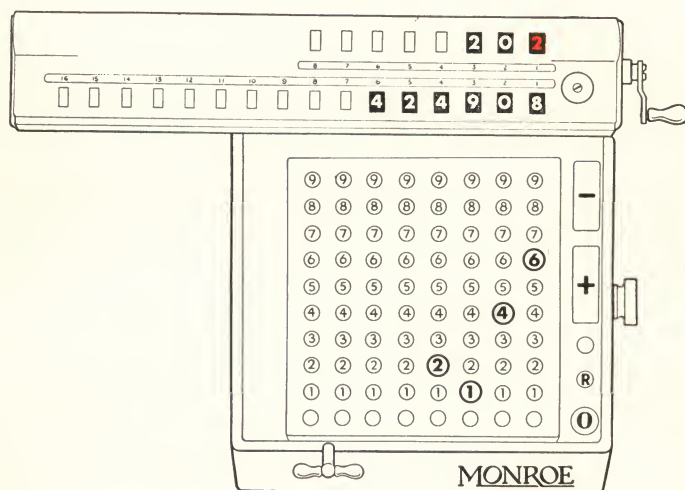

Figure 13
*Step 2*—Then move the carriage to the left two places so that it is in the “1” position. With the minus bar subtract twice. The answer, 424908, will then appear in the lower dials. In the upper dials will be 202, i.e., 200 less 2. See Figure 13.